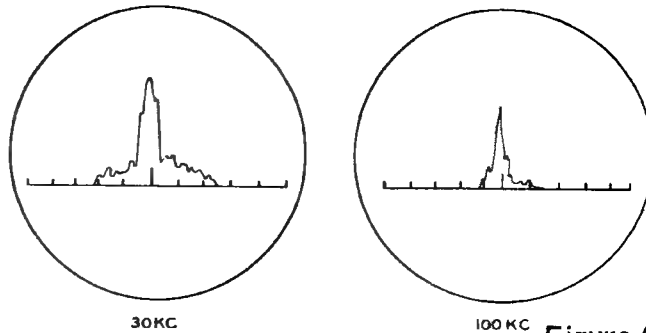

Figure 9
**Figure 9 - Overmodulated AM:** Very wide sidebands will appear with the carrier of an overmodulated AM signal. The approximate width can be measured by knowing the base line calibration.